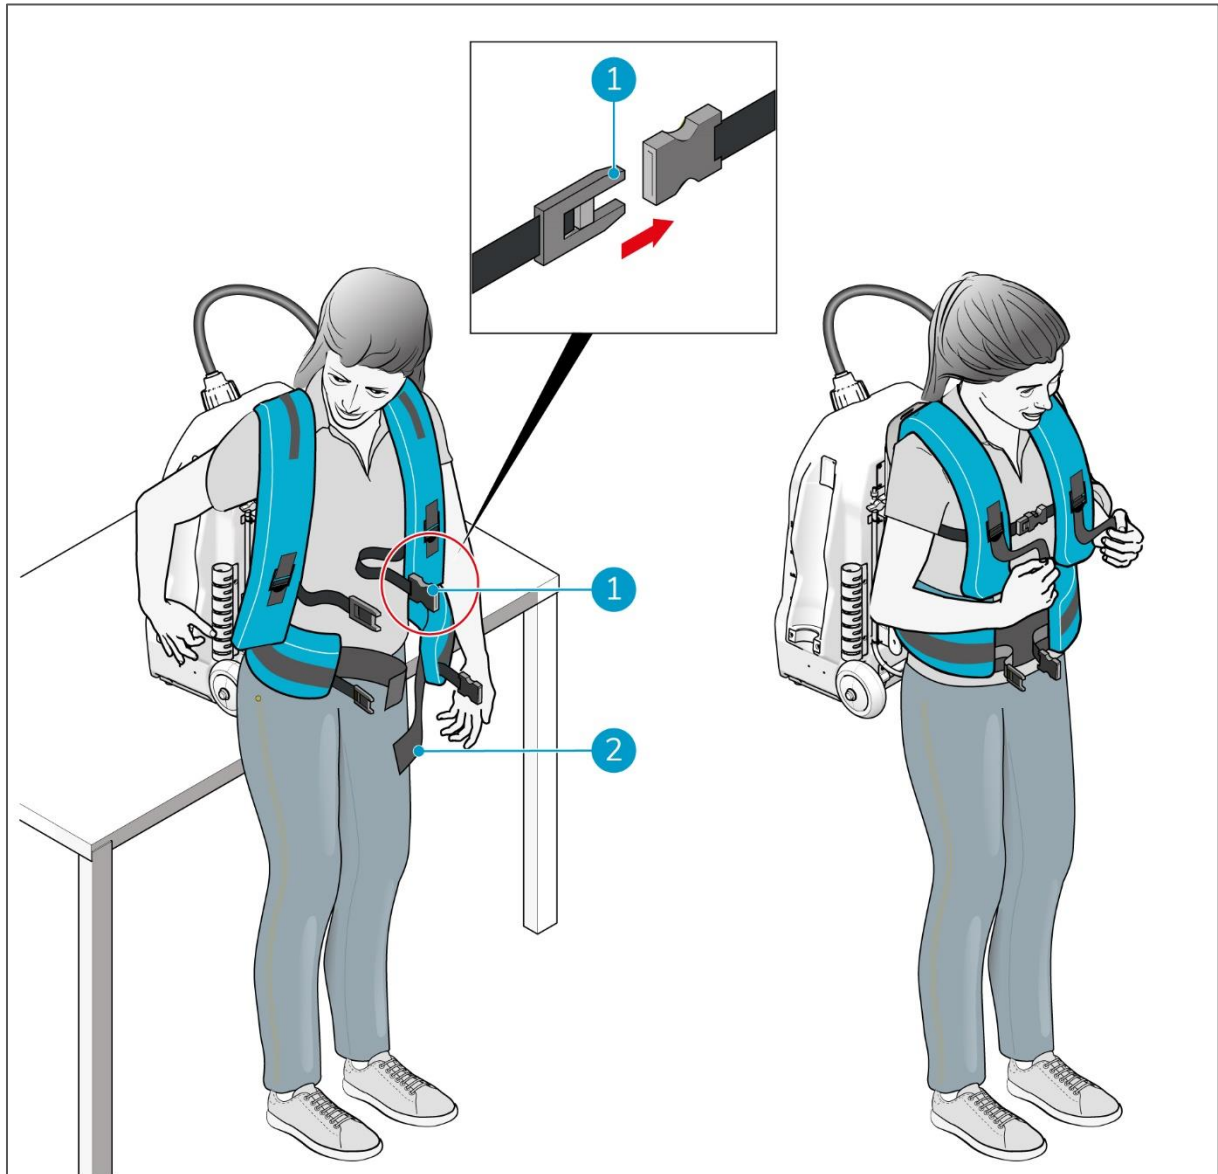

Figure 17
1. Release the straps (Figure 17, pos 1) of the harness to their maximum size.
4. Adjust the waistband (Figure 17, pos 2) and the straps (Figure 17, pos 1) so they fit comfortably.